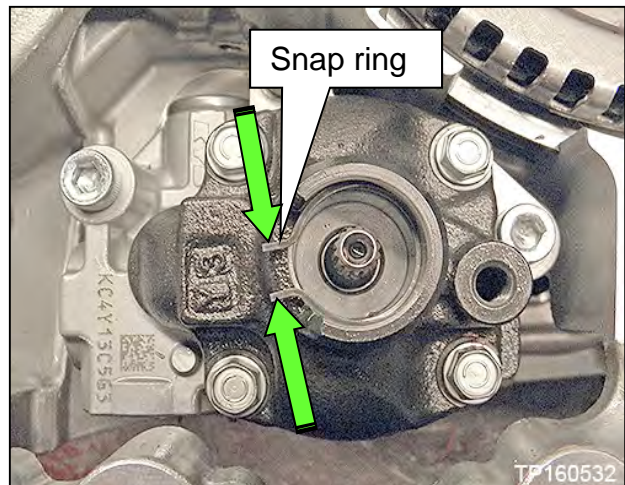

Figure 46
- b. Oil pump snap ring (Figure 46).